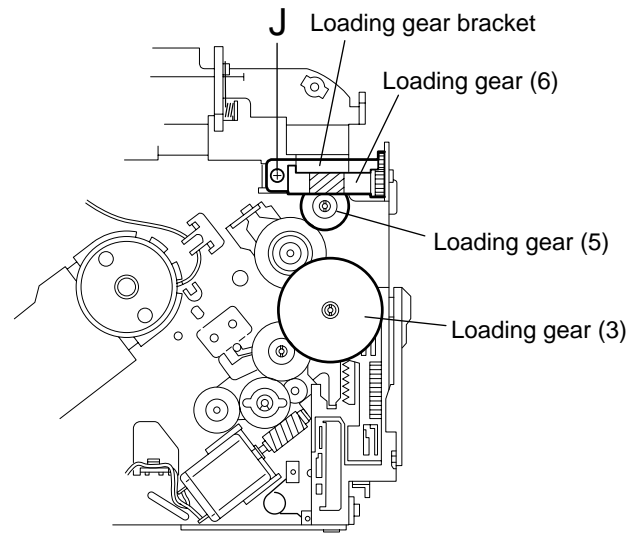

Fig.31
## ■ Removing the loading gear (5), (6) and (7) (See Fig.31 and 32)
1. Remove the screw **J** attaching the loading gear bracket. The loading gear (6) and (7) come off the loading gear bracket.
2. Pull out the loading gear (5).